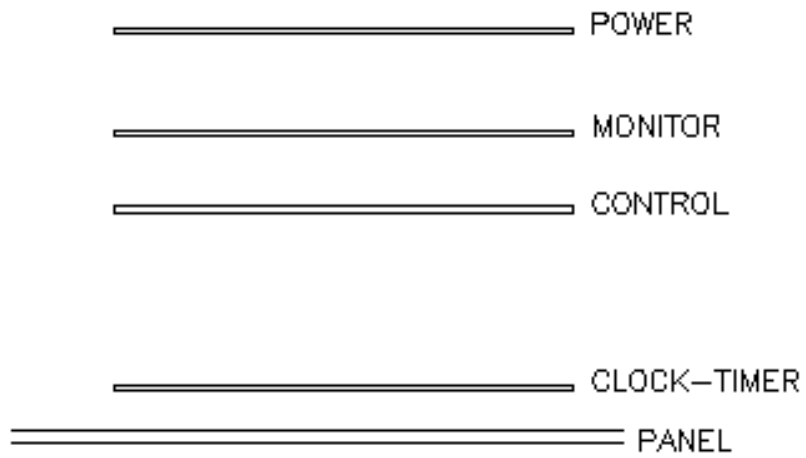

Figure 11 - Circuit Board Sequence
9.2.3.5. CURRENT CONTROL (see fig 11).